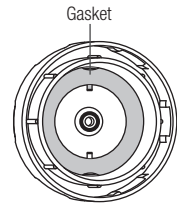

Fig.4
- Before filling solution to the VA Bottle, check the Gasket inside the bottle cap is clean. (Fig. 4)